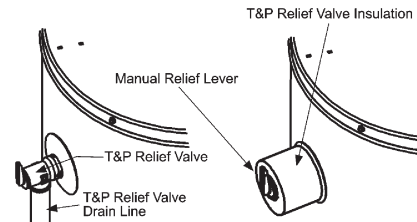

FIGURE 11.
1. Locate the temperature and pressure relief valve on the water heater (also known as a T&P relief valve). See Figure 11.
3. Spread the slit open and fit the insulation over the T&P relief valve. See Figure 11. Apply gentle pressure to the insulation to ensure that it is fully seated on the T&P Relief Valve. Once seated, secure the insulation with
duct tape, electrical tape, or equivalent. **IMPORTANT:** The insulation and tape must not block the discharge opening or hinder access to the manual relief lever (Figure 11). Ensure a discharge pipe is installed into the T&P valve discharge opening per the instructions in this manual.